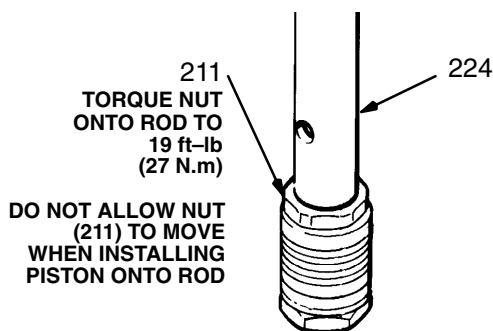

Fig 35-2
7. Use a wrench to **CAREFULLY** tighten the nut (211) onto the piston rod to 19 ft-lbs (25 N.m). Refer to Fig 35-2.